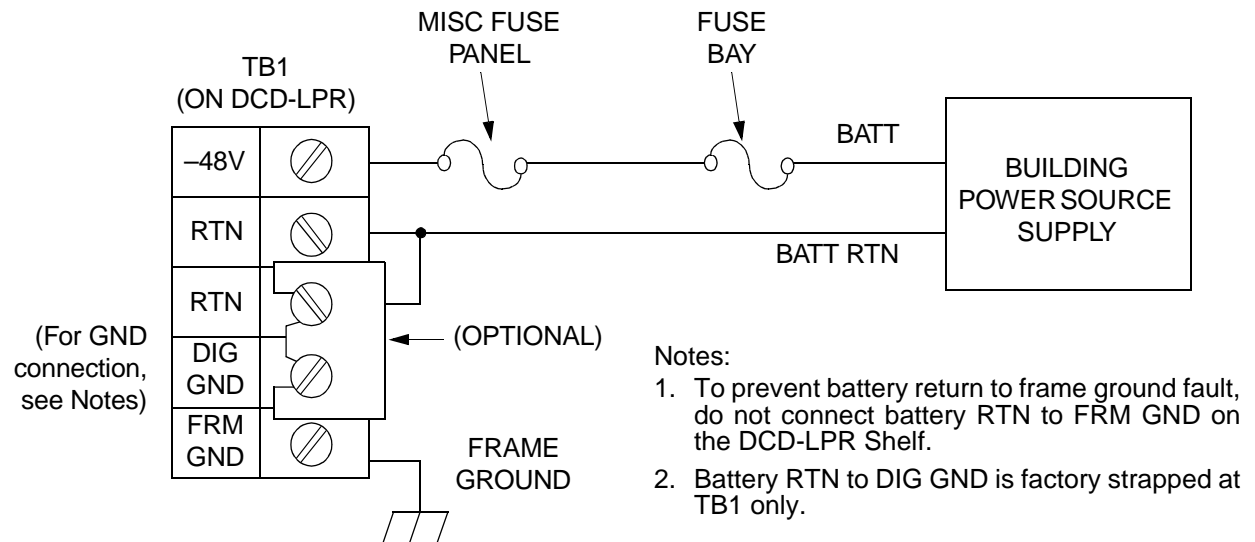

Figure 48. DCD-LPR Ground and Power Connections
4.50 Power and frame grounding connections are made at both the TB1 and TB5 FRM GND terminals on the DCD-LPR backplane. Both terminal blocks are spade lug office battery connections. Use spade lugs designed to accommodate 1.29 mm (16 AWG), 6.3 mm (0.25 inch) width and set with a #6 stud. Figure 48 illustrates the DCD-LPR power and ground connections.
1. Use 1.29 mm (16 AWG) green insulated wire to connect TB1 FRM GND terminal on the shelf backplane (see Figure 48) to rack frame ground. To do this, perform one of the following:
4.55 Power connections are made on TB1 and TB5 (Figure 48). TB1 is for BATT A, and TB5 is for BATT B.